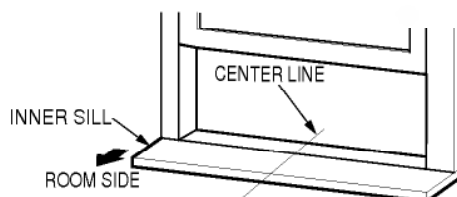

Figure 27
Open the window and mark center line on the center of the inner sill, as shown in Figure. 27.
- b. The bracket helps to hold unit securely in place. Be sure to place bracket edge flush against back of inner sill. See Figure. 27.